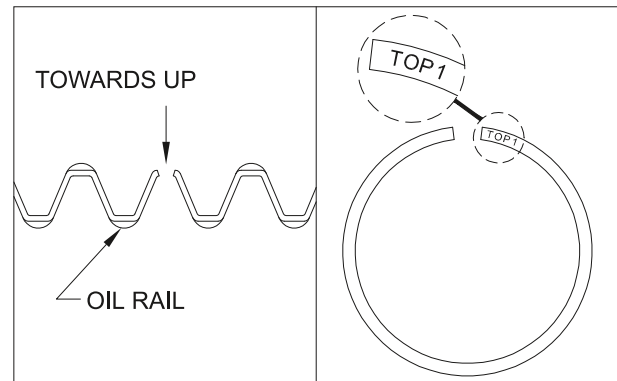

Fig. 3.146
**Note:** Avoid damage to the piston and rings piston during installation. Before assembling the piston, check the rings rotate freely in their respective grooves. Install the 1st and 2nd rings with the marking on the ring 'TOP1' and 'TOP2' (Fig. 3.146) facing upwards